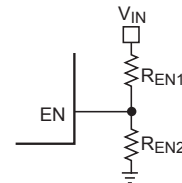

Figure 2—Enable Divider Circuit
2) Enabled by Vin through voltage divider. Connect EN with Vin through a resistive voltage divider for automatic startup as the figure 2 shows.